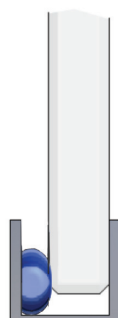
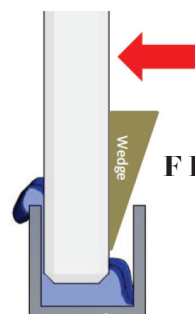
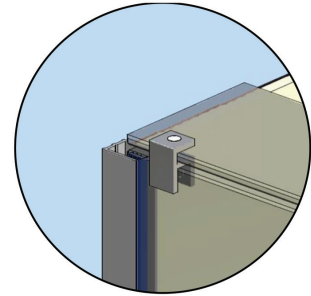

FIG 9.
FIG 10.
FIG 12.
- Slide glass panel into position (**FIG 9**) and use small wedges (**FIG 10**) or a flat plastering blade to slide glass panel back to inside edge of channel and against silicone.
- Fasten chrome brackets to overhead brace (3, FIG 9) and sit in place above door gap (FIG 12).